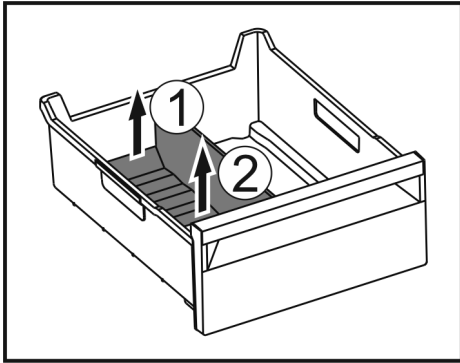

Fig. 110
- ▶ Lift the rear part of the ice compartment divider. Fig. 110 (1)
- ▶ Remove the ice compartment divider upwards. Fig. 110 (2)